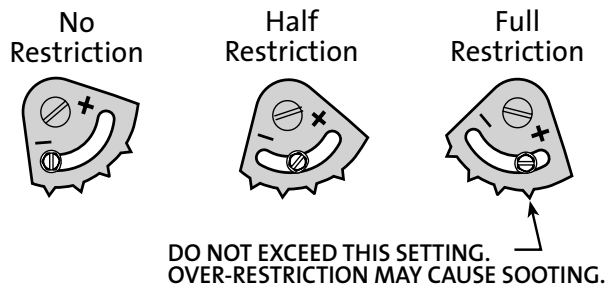
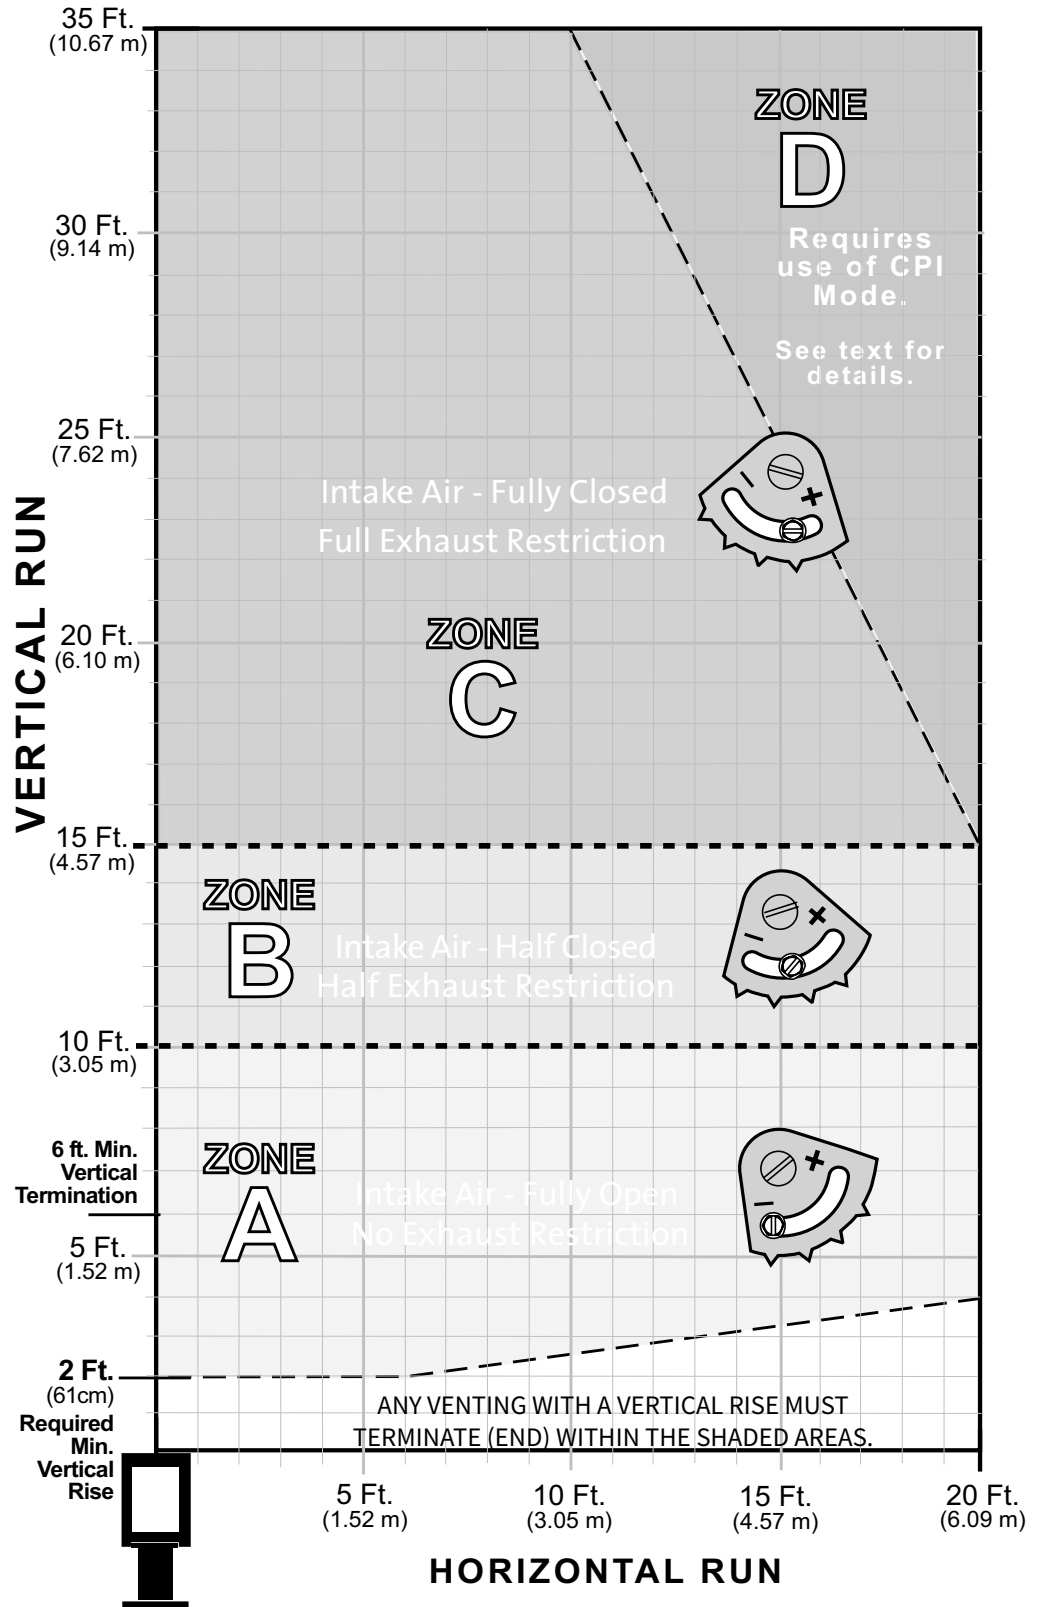

Figure 15. Exhaust Restrictor settings
Figure 17. Vent Termination Diagram.
Use the Vent Termination Diagram, fig. 17, to determine which zone your vent termination falls within and make the appropriate exhaust and air intake setting adjustments. Use these settings as general guidelines to start from. The final settings will ultimately be determined by the individual characteristics of your particular installation. There are no hard and fast rules.
2. Loosen the locking screw and turn the restrictor pivot plate to the appropriate indicator point as specified in the vent window diagram, figure 17. After the burner has been operating for 15 minutes, make any further adjustment in 1/8” increments until the desired flame picture is achieved. **Do not exceed the fully closed setting as shown in fig. 15.** Operate the burner for 10-15 minutes between additional adjustments.